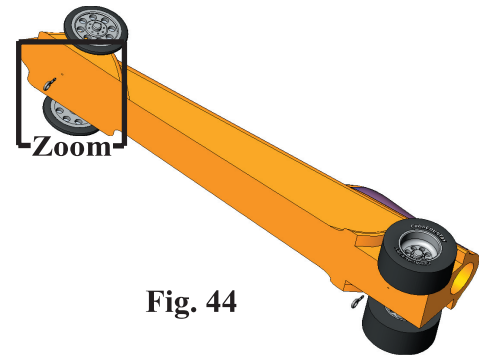

Fig. 44
Step 1. Zoom in around **front eye screw and hole**, Fig. 44. To **zoom**, hold down **Shift** key and drag with middle mouse button (wheel). To **pan**, hold down **Ctrl** key and drag with middle mouse button (wheel).